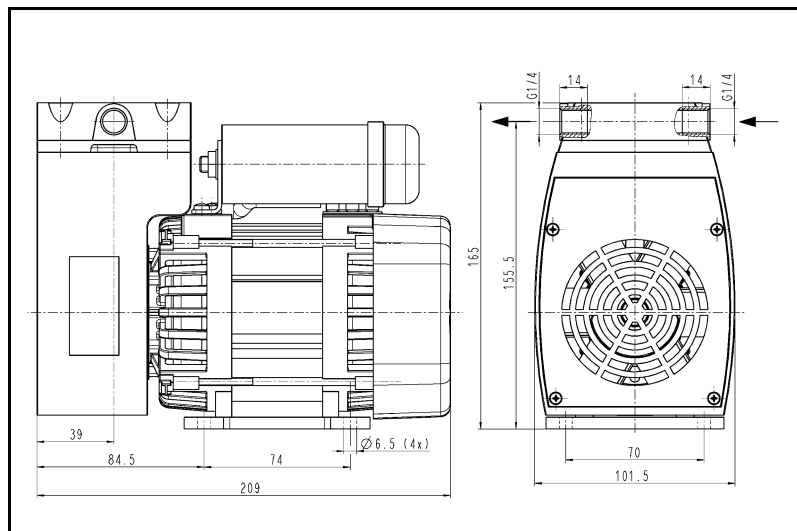
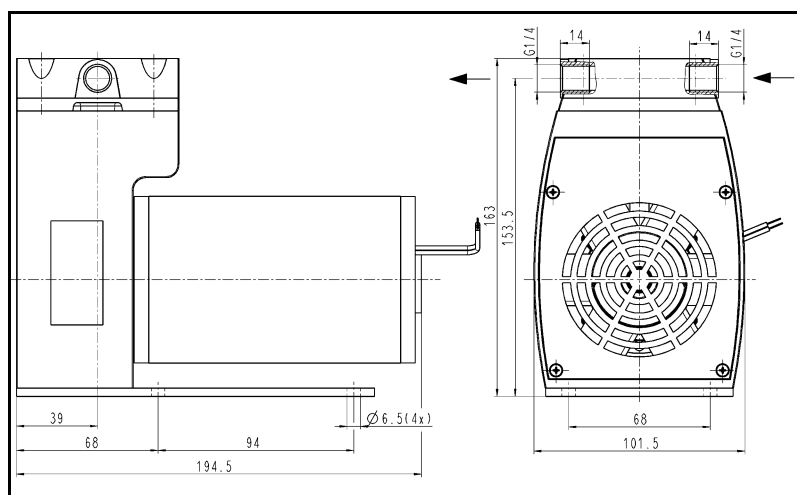

Fig. 3: Mounting dimensions NPK 25 AC
Fig. 4: Mounting dimensions NPK 25 DC
- For the mounting dimensions see fig. 3 (NPK 25 AC) or fig. 4 (NPK 25 DC)